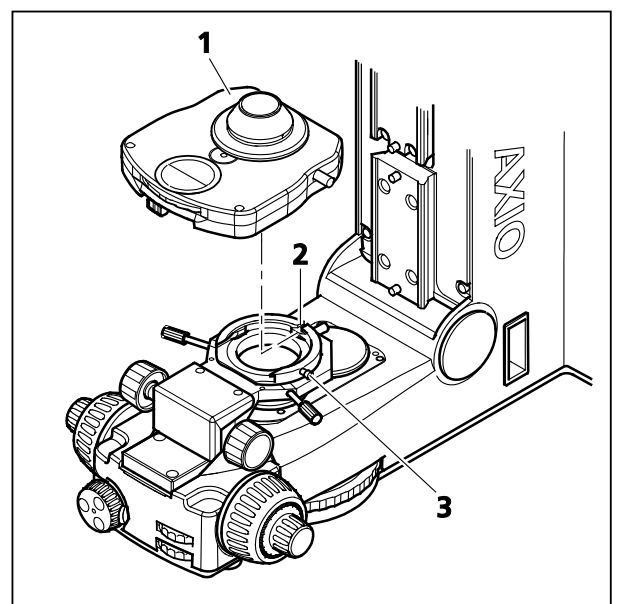

Figure 3-13 Putting on the condenser
- Put the condenser (Figure 3-13/1) on the condenser carrier. To do so, direct the stud at the condenser bottom toward the slot (Figure 3-13/2).
- Slide the condenser into the condenser carrier until it reaches its stop, and secure it using the clamping screw (Figure 3-13/3).